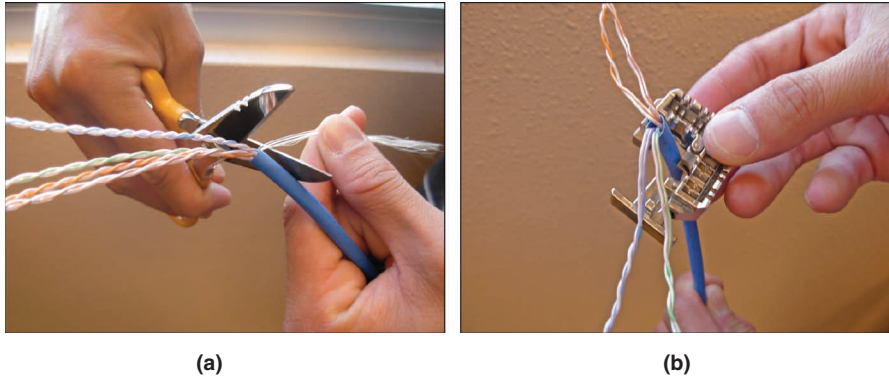
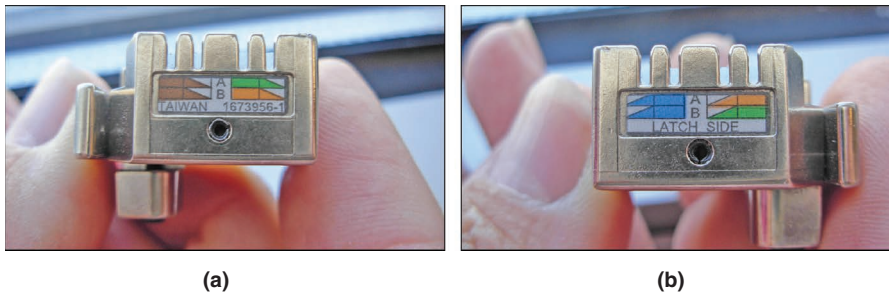

FIGURE 2-16 (a) Removing the plastic pull line and (b) placing the lacing tool on the cable with the color-sorted cable pairs.
FIGURE 2-17 The sides of the lacing tool, showing the T568A and T568B wire color connections.
5. Cut the plastic pull line and the string as shown in Figure 2-16(a). The plastic line adds strength to the cable for pulling, and the string is used to remove extra cable jacket, as needed. Place a lacing fixture on the cable, as shown in Figure 2-16(b), and sort the wires in the correct color order (according to either T568A or T668B) so that you can match up the sorted wire pairs with colors provided on the lacing fixture for T568A and T568B, as shown in Figure 2-17.